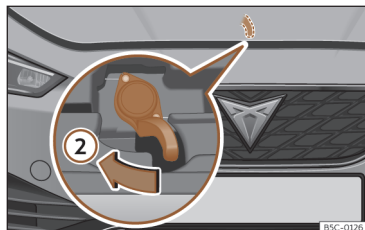

Fig. 223 Lever under the bonnet.
- To lift the bonnet, press towards the left on the lever located under the bonnet, in the centre >>> **Fig. 223** ②. The fastening hooks are unlocked.